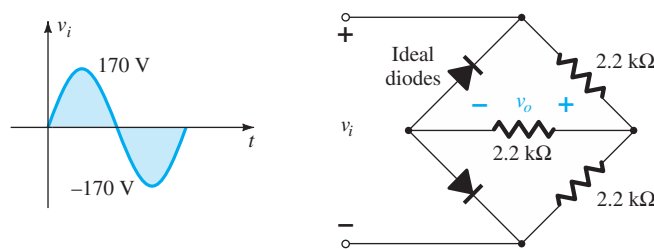

FIG. 2.175
- *31. Sketch v_o for the network of Fig. 2.175 and determine the dc voltage available.